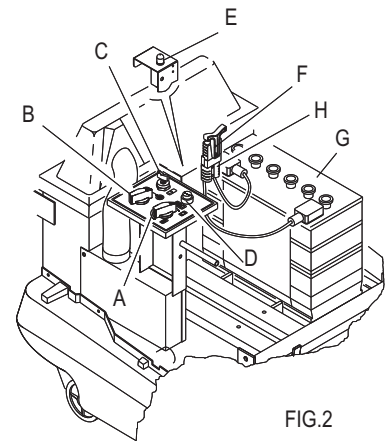
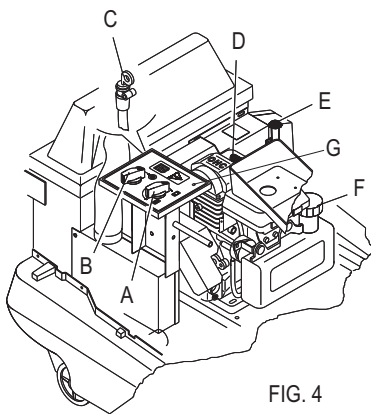

FIG. 2
FIG. 4
When passing over wet floors it is necessary to cut off vacuum (fig.2 pos.B electric version, fig.4 pos.B Honda version)
Turn the key in pos.1 (fig.2 pos.C)
Turn the key in pos.0 (fig.2 pos.C)
- Disconnect the plug (fig. 2 pos. F)
- Connect the battery charger's plug (fig. 2 pos. H)